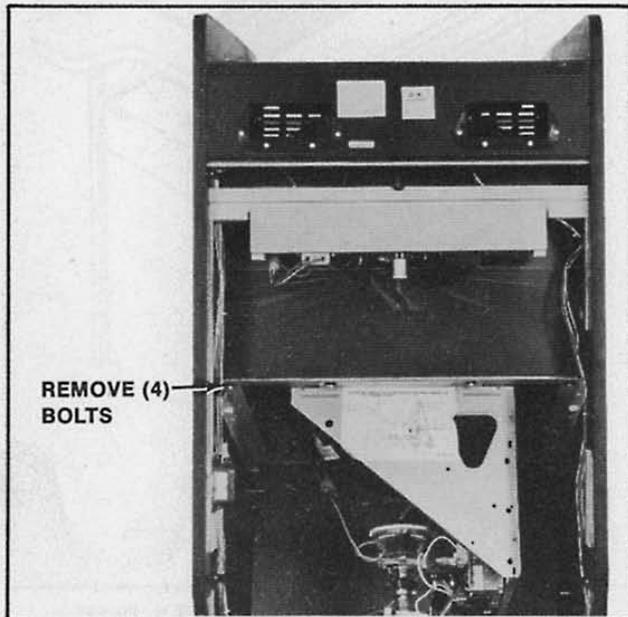

Figure 4-9 Removing Monitor — Upright
1. UPRIGHT MODEL. See Figure 4-9.
The monitor mounting brackets slide on top of and against two metal guides mounted to the cabinet's right and left sides. The monitor is removed by sliding it out the back of the cabinet. See Figure 4-9.